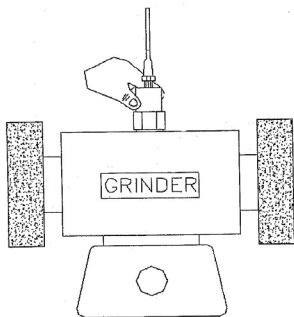

Fig 2
7. If the surface material of the item being measured is not ferrous, hold the vibration sensor by hand & touch the sensor to the surface of the item, refer the Fig. 2